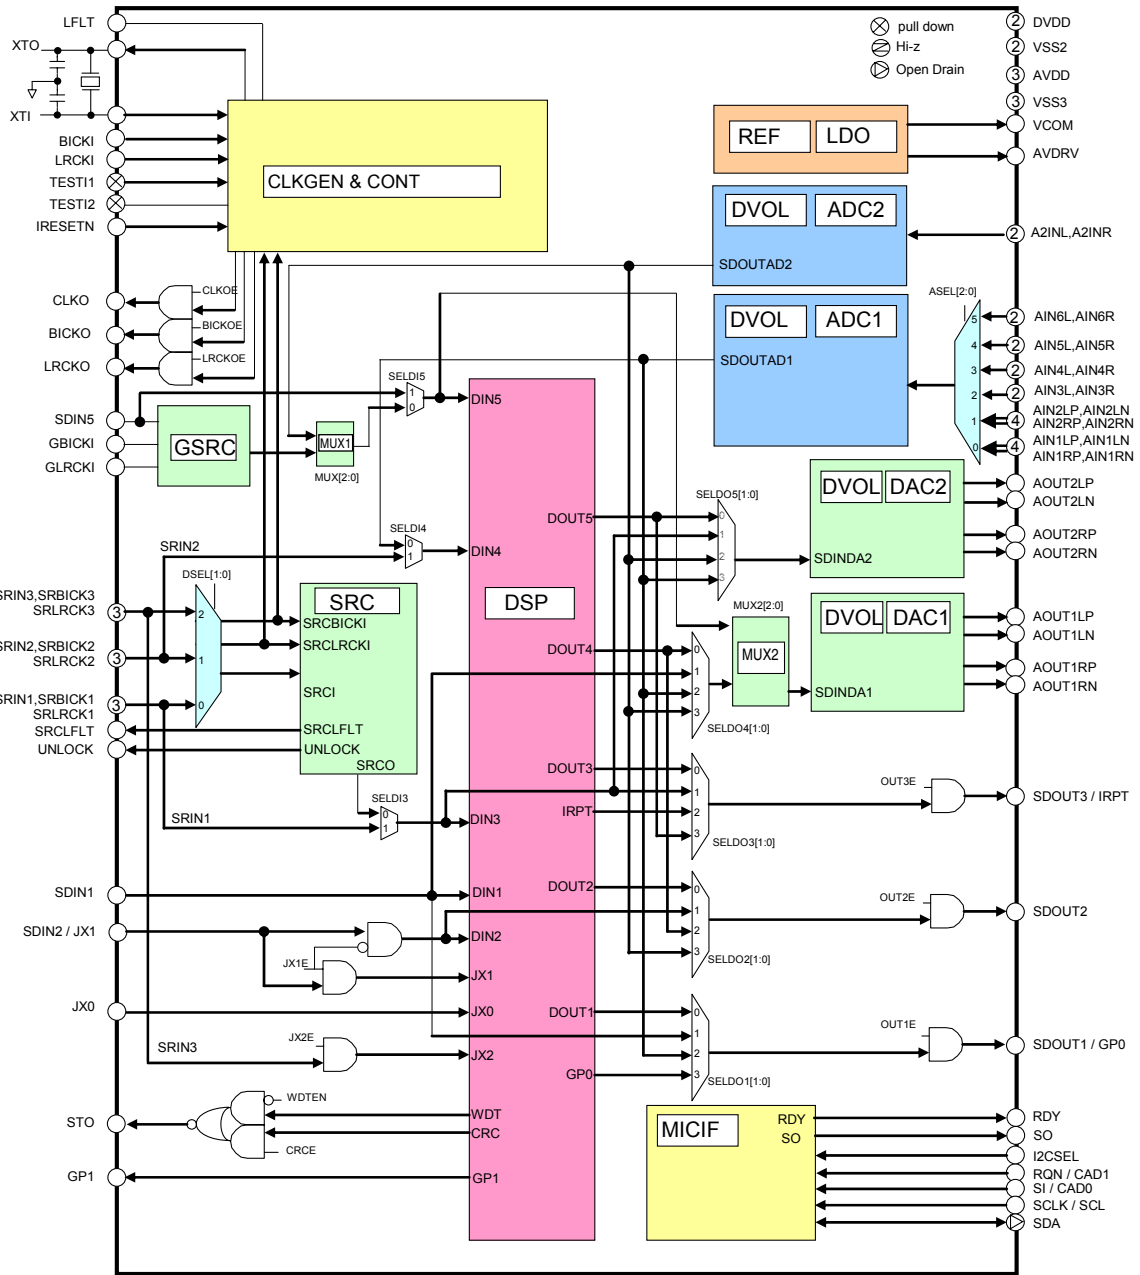

Figure 1. Block Diagram
* Figure 1 shows a simplified diagram of the AK7722, which is not the perfect same as the actual circuit diagram.